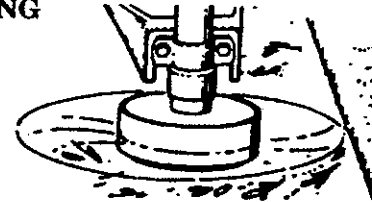

Figure 17
4. **SWEEPING** - Figure 17 . The fanning action of the rotating line can be used for a quick and easy clean up. Keep the line parallel to and above the surfaces being swept and move the tool from side to side.